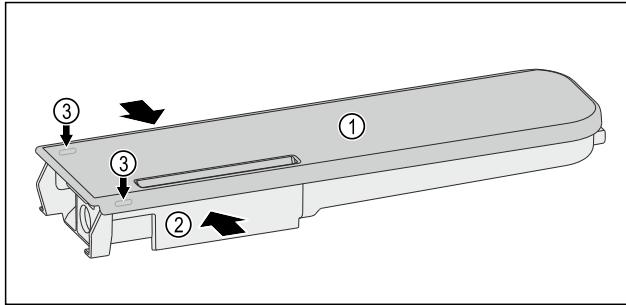

Fig. 127
- ▶ Push the water tanks Fig. 127 (2) together, leverage the cover Fig. 127 (1) carefully over the latching tabs Fig. 127 (3) and lift it up.
- ▶ Move the cover Fig. 127 (1) slightly forwards and back, and remove to the top.